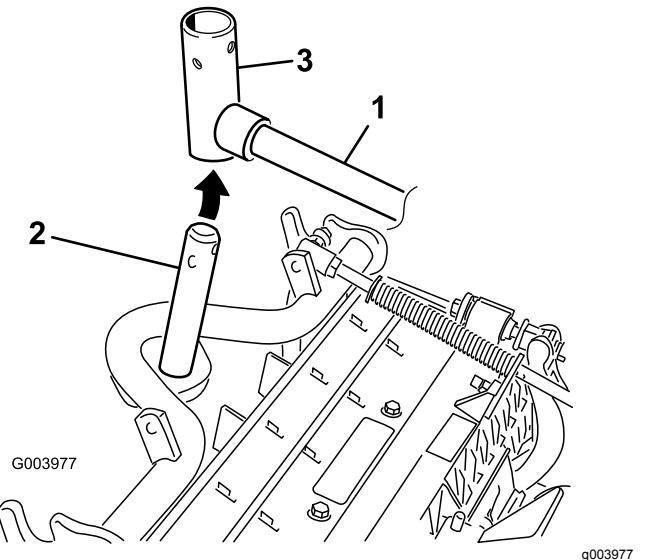

Figure 11
8. For the front cutting units, slide a cutting unit under the lift arm while inserting the carrier-frame shaft up into the lift-arm-pivot yoke (Figure 11).
2. Insert the lift-arm yoke onto the carrier-frame shaft (Figure 11).